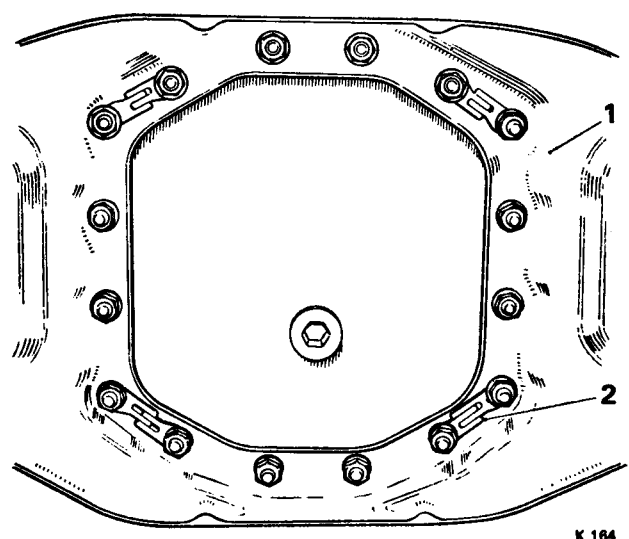

FIG. J12 FINAL DRIVE END COVER
3. Offer up the final drive unit to the final drive cross-member and fit the sixteen nuts and washers, taking care to position the eight interlocking washers correctly. These eight washers fit beneath the plain nuts and washers at each corner pair of studs with the fingers correctly interlocked (see Fig. J12).